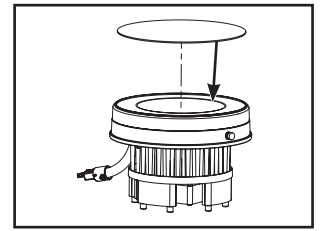

Figure 31.
- Insert lens onto white reflector (Figure 31.).